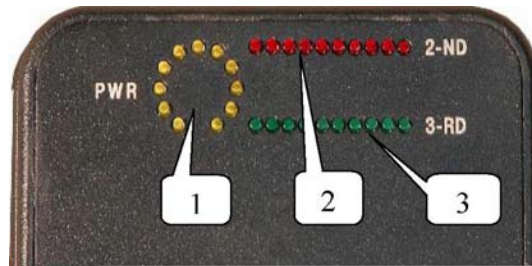

Fig. 2
4 Display of levels of a detector power (1), signals of the 2nd (2) and 3rd (3) harmonics (Fig. 2).